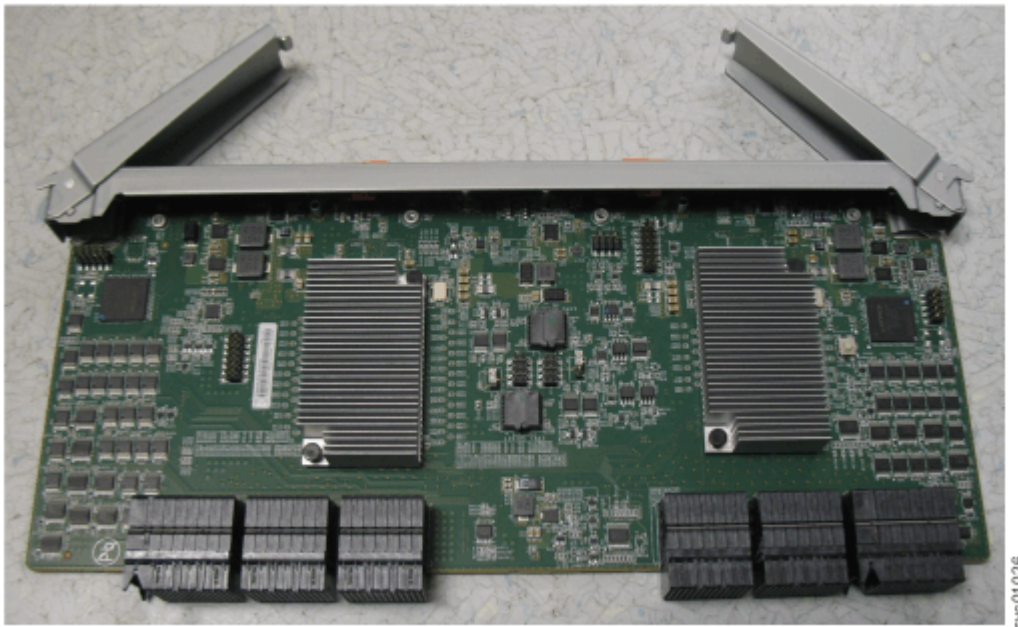

Figure 161. Secondary expander module removed from the enclosure
5. Place the secondary expander module in a safe location, as shown in Figure 161 on page 192.